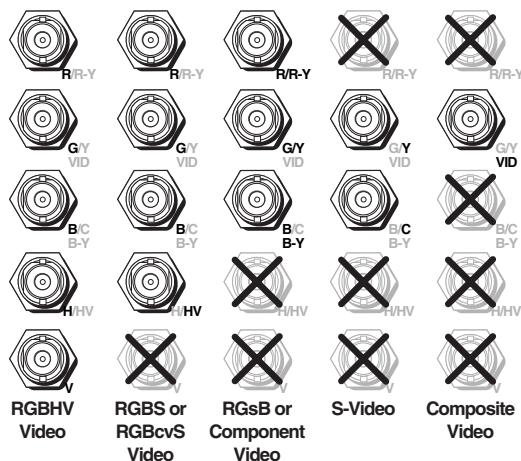

Figure 2-3 — Connections for various input video formats
- ① **AC power connector** — Plug a standard IEC power cord into this connector to connect the switcher to a 100 to 240 VAC, 50 Hz or 60 Hz power source.
- ② **Input video connectors** — Connect computer or RGB video, component video, S-video, or composite video to these female BNC connectors. Figure 2-3 shows how to connect the various video formats.